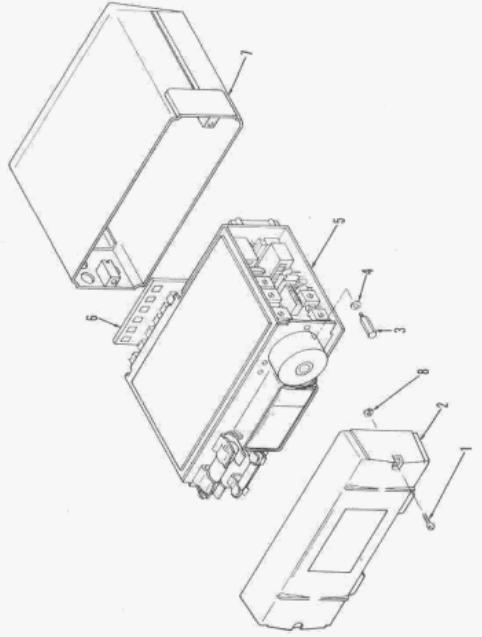

Figure 2-1. Case and Rear Cover Removal
2-2. USE AND REAR COVER. Remove the digital multimeter from the case in accordance with fig. 2-1 and the following procedure.
- c. Loosen two screws (1, fig. 2-1) and remove rear cover (2) from case (7).
- g. Position rear cover (2, fig. 2-1) on case (7) and secure by tightening two screws (1).